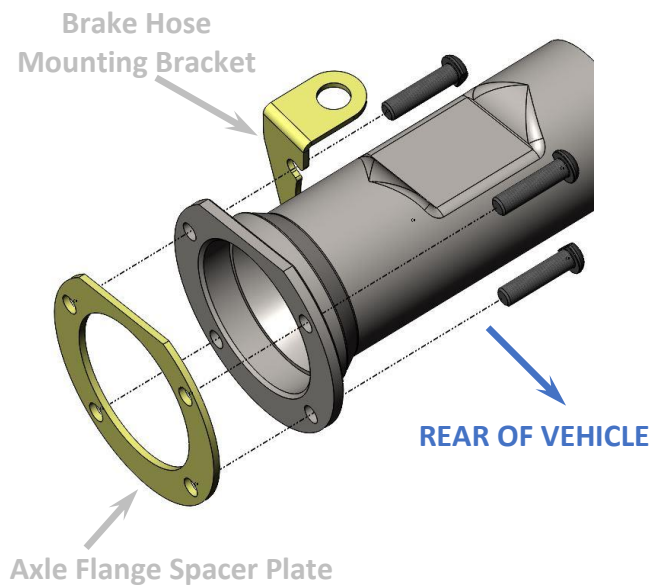

Figure 2a– Axle Flange Spacer Plate Installation
- From the backside of the axle flange, insert the provided Modified 3/8"-16 x 1.500" Button Head Bolts into the axle housing. Make sure that the 2 forward most bolts go through the supplied Brake Hose Mounting Brackets. **NOTE: These brackets are left and right specific and are designed so the tab faces inward to the vehicle.** Once installed, position the Axle Flange Spacer Plate over the four bolts against the axle flange. See Figures 2a and 2b below for installation reference.